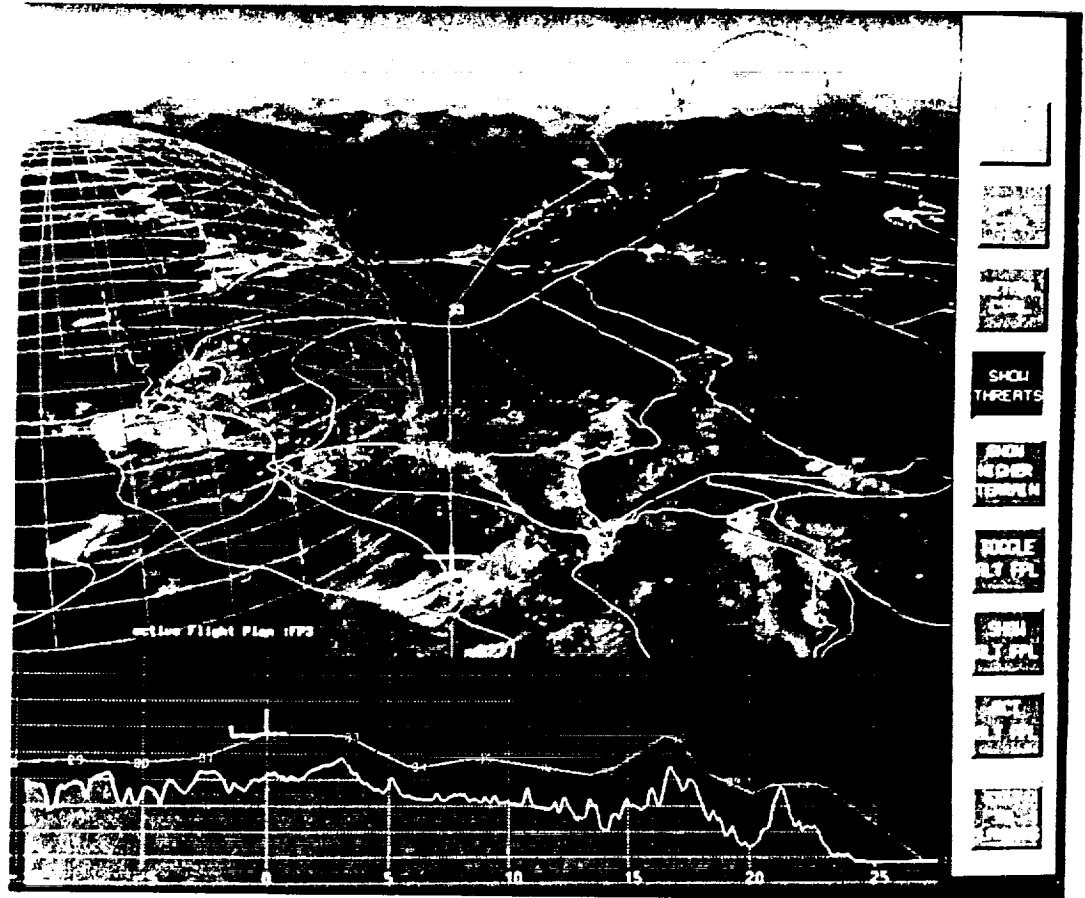

Figure 5: Navigation Display Format:
- Military threats or other airspace restrictions (Figure 5).